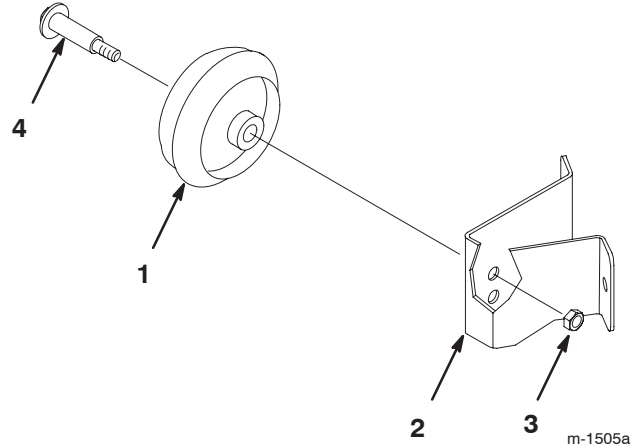

Figure 6
- Mount the wheels onto the wheel brackets with the wheel bolts and 3/8 in. locknuts (Fig. 6).